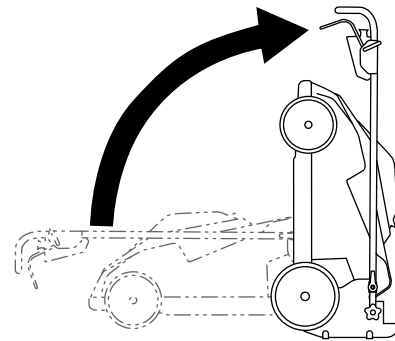

Figure 21
6. Lift the front of the machine by the handle and move it into a storage space (Figure 21).
3. Fold the handle forward to the fully forward position as shown in Figure 21.